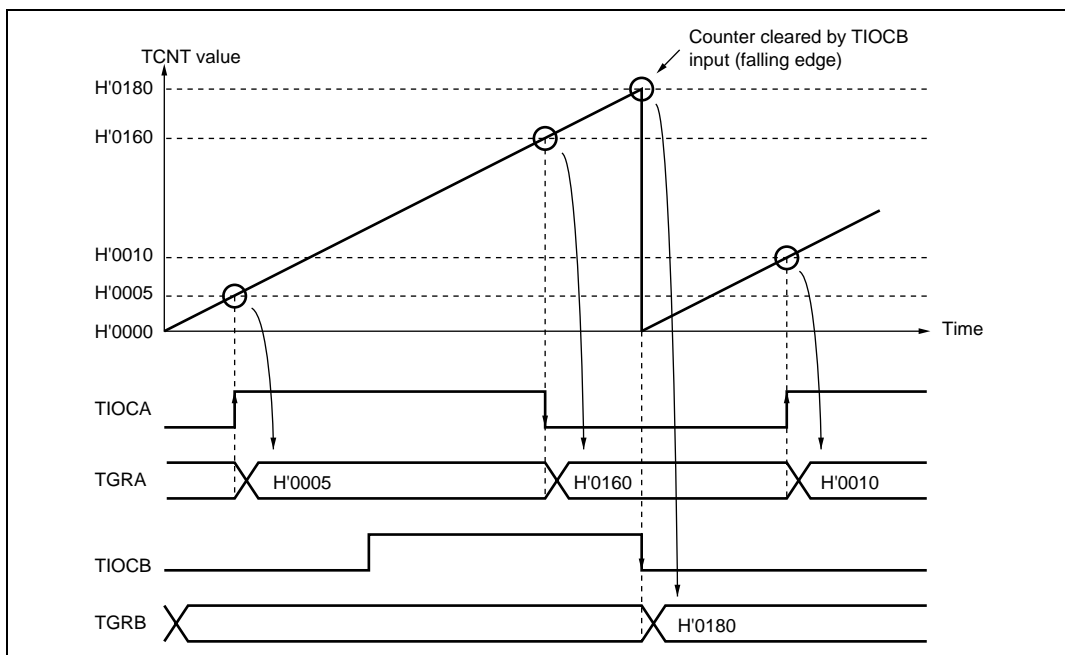

Figure 8.9 Example of Input Capture Operation
2. Example of input capture operation: Figure 8.9 shows an example of input capture operation.